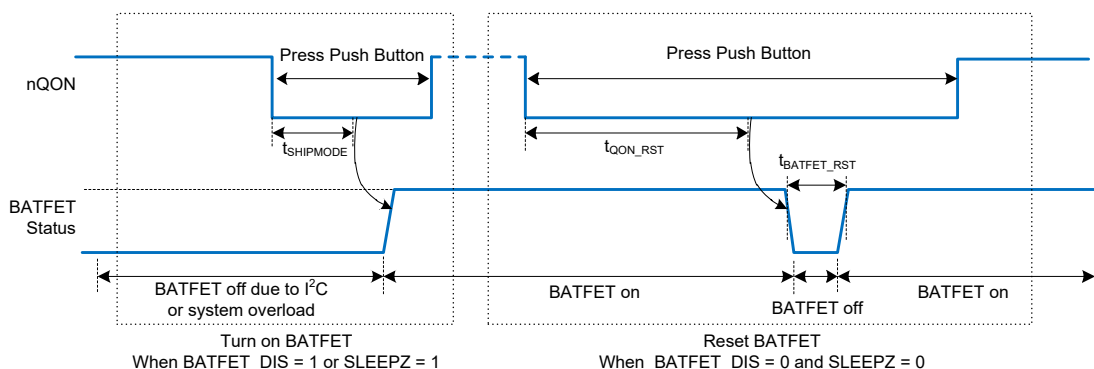

Figure 10. nQON Enable and Reset BATFET Timing
1. Enable BATFET: Applying an nQON logic high to low transition with longer than $t_{SHIPMODE}$ deglitch time (negative pulse) turns on BATFET to exit ship mode (Figure 10 left). HIZ is also enabled (EN_HIZ = 1) when exiting shipping mode. After exiting shipping mode, the host can disable HIZ (EN_HIZ = 0). OTG cannot be enabled (OTG_CONFIG = 1) until HIZ is disabled.
2. Reset BATFET: By applying a logic low for a duration of at least t_{QON_RST} to nQON pin while VBUS is not powered and BATFET is allowed to turn on (BATFET_DIS bit = 0), the BATFET turns off for t_{BATFET_RST} and then it is re-enabled resulting in a system power-on reset. This function can be disabled by clearing BATFET_RST_EN bit (Figure 10 right).